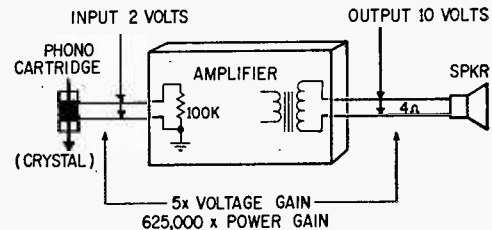

Fig. 10. Voltage gain from input to output is low. Power gain, needed to drive speaker, is very high.
**Power Gain.** Suppose a crystal pickup furnishes a 2-volt signal into a 100,000 ohm load at the input of an amplifier, as shown in Fig. 10. The input power will be equal to